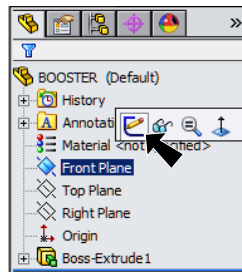

Fig. 5
Step 1. Click **Front Plane**  in the Feature Manager and click **Sketch**  on the Context toolbar, **Fig. 5**.